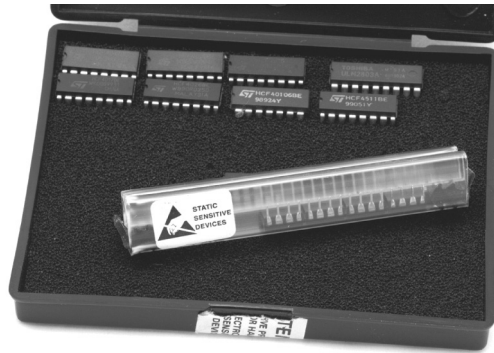

Fig. 6
- (c) Many ICs including the PIC are stored in materials that will protect against static electricity as shown in Fig. 6.